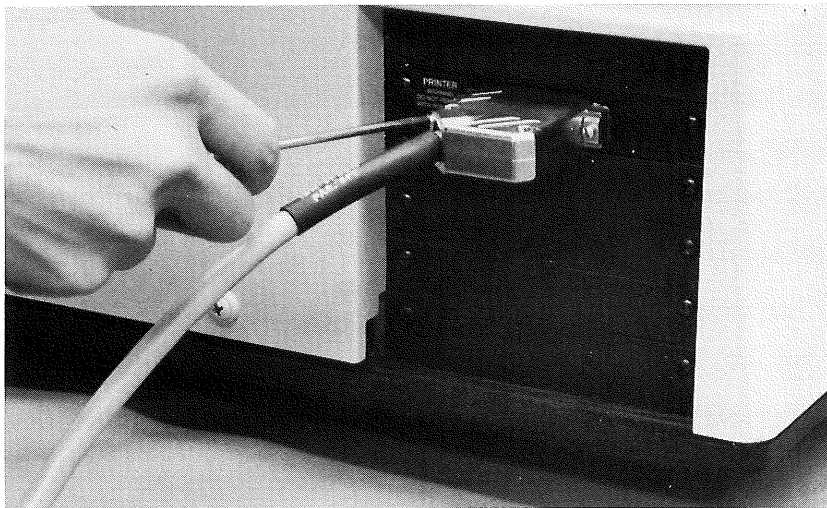

Figure 6.
13. Connect one end of the printer cable to the printer board and secure by tightening the two screws. See Figure 6.